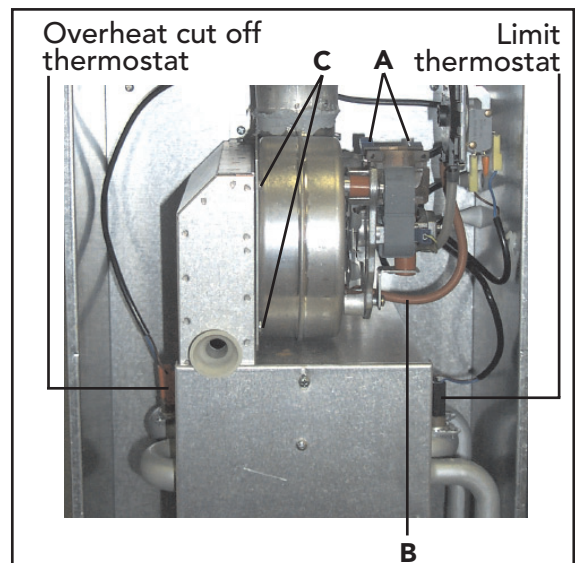

Fig. 27
Removal of fan (fig. 27)
Limit thermostat, or overheat cut off thermostat (fig. 27)
- Identify the location of thermostat from fig. 27